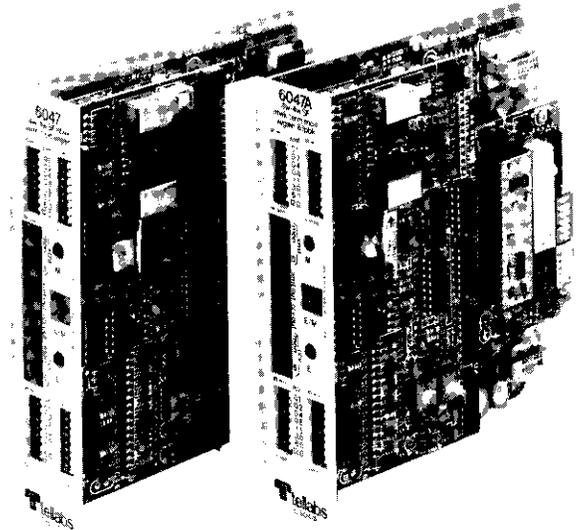

figure 1. 6047 and 6047A 4Wire-to-4Wire SF-to-E&M Network Terminating Modules
1.01 The 6047 4Wire-to-4Wire SF-to-E&M Network Terminating Module with Gain and the 6047A 4Wire-to-4Wire SF-to-E&M Network Terminating Module with Gain and Loopback (figure 1) each provide signaling and transmission interface between a 4wire facility that uses single-frequency (SF) signaling and a 4wire trunk (typically, a PBX trunk) or a 4wire line that uses E&M signaling. Both modules provide active level control in the transmit and receive paths, receive-path amplitude equalization, and full-duplex conversion between the SF signaling on the facility and the E&M signaling on the trunk or line. Conventional 2600Hz SF tone is supplied by an integral oscillator. The 6047 and 6047A differ from ordinary 4wire E&M SF signaling sets in that they contain integral amplifiers to accommodate a variety of facility interface levels. Unlike the 6047, the 6047A contains integral loopback circuitry that facilitates local or remote testing of both the module and the facility. As members of Tellabs' 262U Universal Network Terminating System of modules and enclosures, the 6047 and 6047A each fulfill Registered Facility Interface Codes TC31E, TC31M, TC32E, TC32M, TL31E, TL31M, TL32E, and TL32M for network-terminating applications where the serving telephone company uses SF signaling.